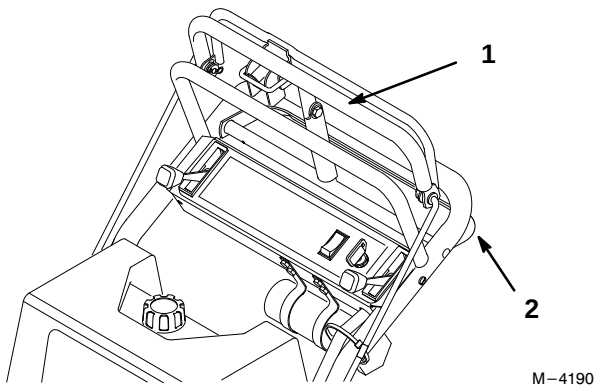

Figure 15
3. Slowly press on the upper control bar to move forward (Fig. 15).
To go straight, apply equal pressure to both ends of the upper control bar (Fig. 15).
To turn, release pressure on the upper control bar side away from the direction you want to turn (Fig. 15).
3. Slowly squeeze on the lower control bar and handle together to move rearward (Fig. 15).